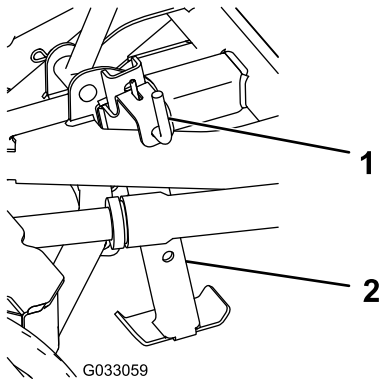

Figure 2
2. Pull the kickstand-spring pin to release and lower the kickstand (Figure 2).